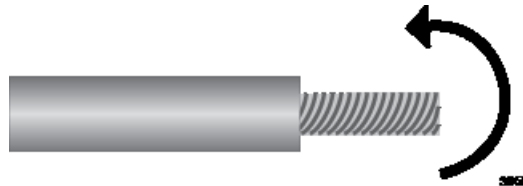

Figure 37. Wrap Wire Strands
2. Tightly wrap the wire strands with your finger tips. Refer to Figure 37 on page 82.